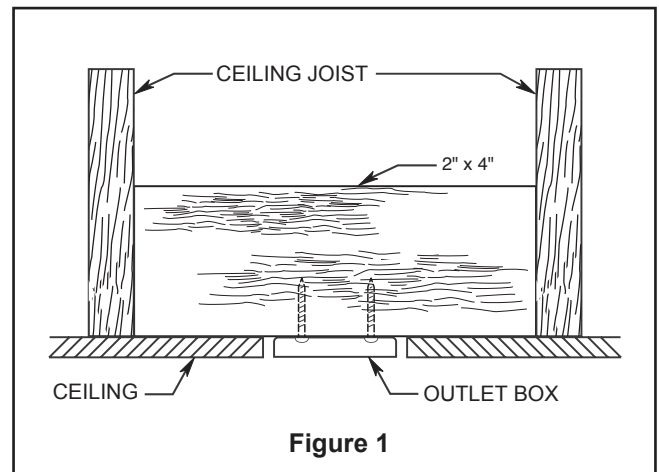
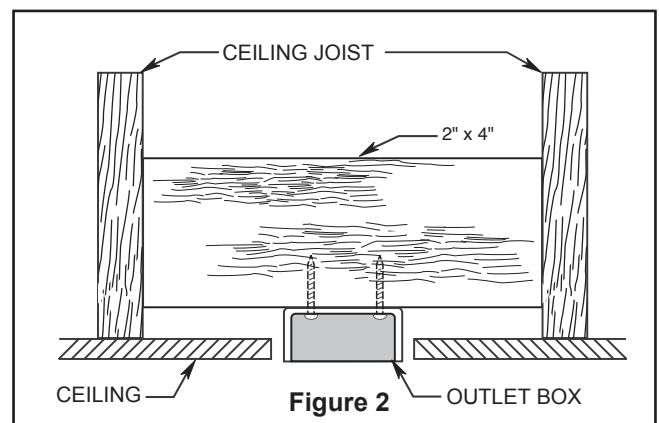
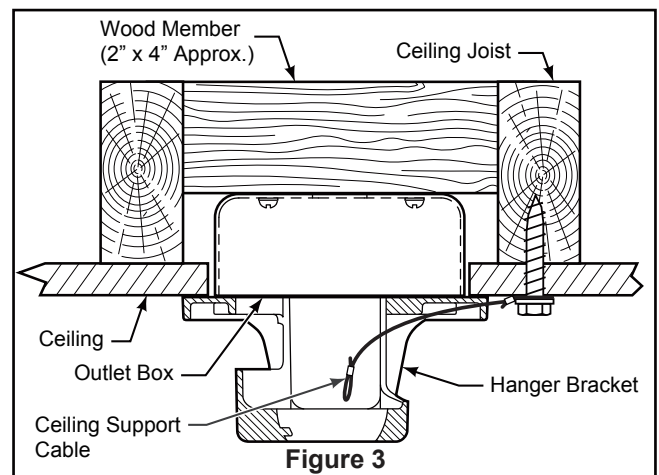

Figure 1
Figure 2
Figure 3
Your new ceiling fan will require a grounded electrical supply line of 120 volts AC, 60 HZ, 15 Amp Circuit. Electrical code requires use of a fan-rated outlet box to support the extra weight and motion associated with a ceiling fan. A fan-rated box will be labeled as such and typically supports up to a 70lb ceiling fan. Fan-Rated Outlet Boxes vary in ratings and design. Ensure the ratings of your ceiling fan outlet box meet the requirements for the ceiling fan being installed. Figure 1, Figure 2 and Figure 3 depicts different structural configurations that may be used for mounting the outlet box.
Low profile box (Figure 1)
Deep box (Figure 2)
Deep box with brace (Figure 3)
3. Loosen the two set screws and locking nuts in the downrod support of the motor assembly. Route the black, blue, white wires and safety cable through the downrod. (Figure 3)
1. Securely attach the hanger bracket to the outlet box using the outlet box screws and washers supplied with the outlet box. (Figure 3)
2. Drill a 1/4" pilot hole into the building structure to prevent splitting or cracking with installation of the lag bolt. Using the 3/8" x 2" lag bolt and flat washer, attach safety cable to ceiling joist or wood structural member. The lag bolt will pass through the flat washer, safety cable loop, and into the building structure. (Figure 3)
NOTE: Ceiling support cable cannot be secured to outlet box only, it must be directly secured to ceiling joist or structural member using the 3/8" x 2" lag bolt and flat washer. (Figure 3)
- 5. Attach assembled blades and blade holders to the motor hub using the provided screws and lock washers. (Figure 3)
3. Check the operation of the fan by gently pulling on the fan pull chain. (Figure 3)